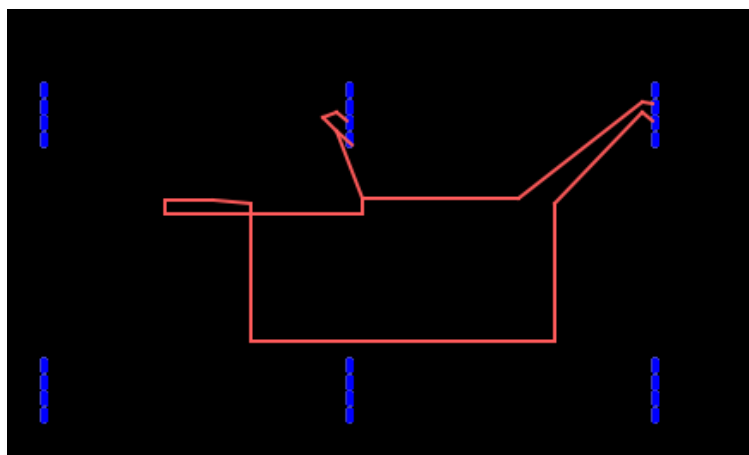

Figure 3.32. Route of Interest
3. This removes all the other routes from the view allowing you to focus on the route of interest as shown in Figure 3.32.